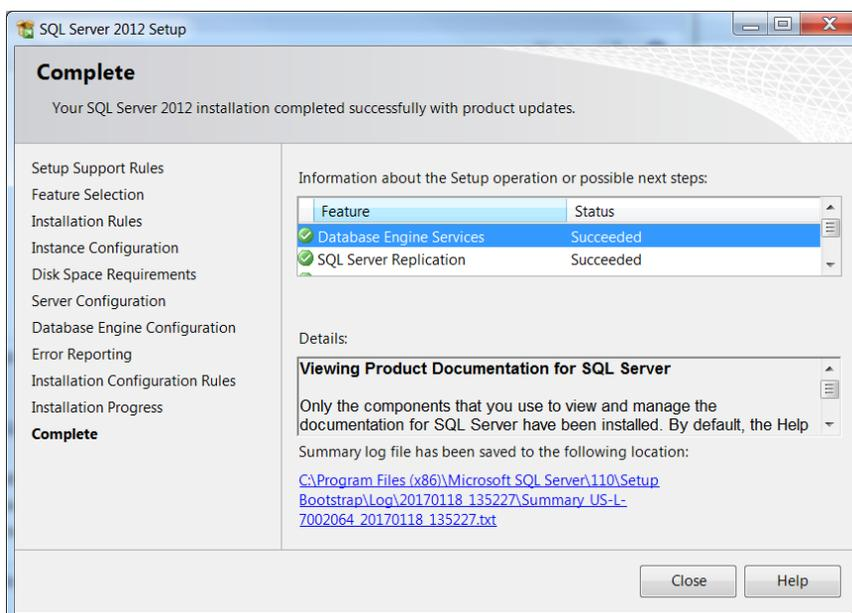

Figure 20: SQL Server 2012 Setup Complete
15) Verify that the installation completes successfully (Figure 20). Scroll down to verify that the installation status of all features lists Succeeded and then click **Close**.